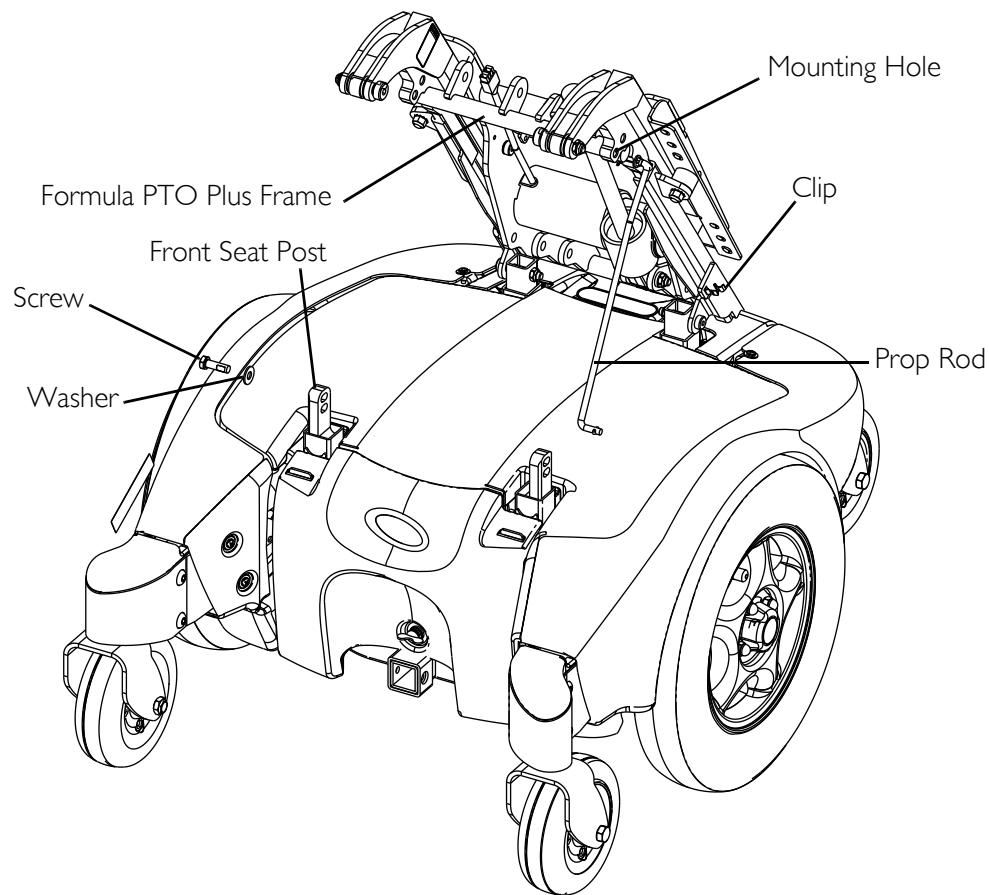

FIGURE 4.3 Tilting the Seat Assembly - Formula PTO Plus Seating System Only
NOTE: For this procedure, refer to FIGURE 4.3 on page 41.
8. Remove prop rod from the clip located on the Formula PTO Plus frame and engage the prop rod end into the front seat post as shown in FIGURE 4.3 on page 41.